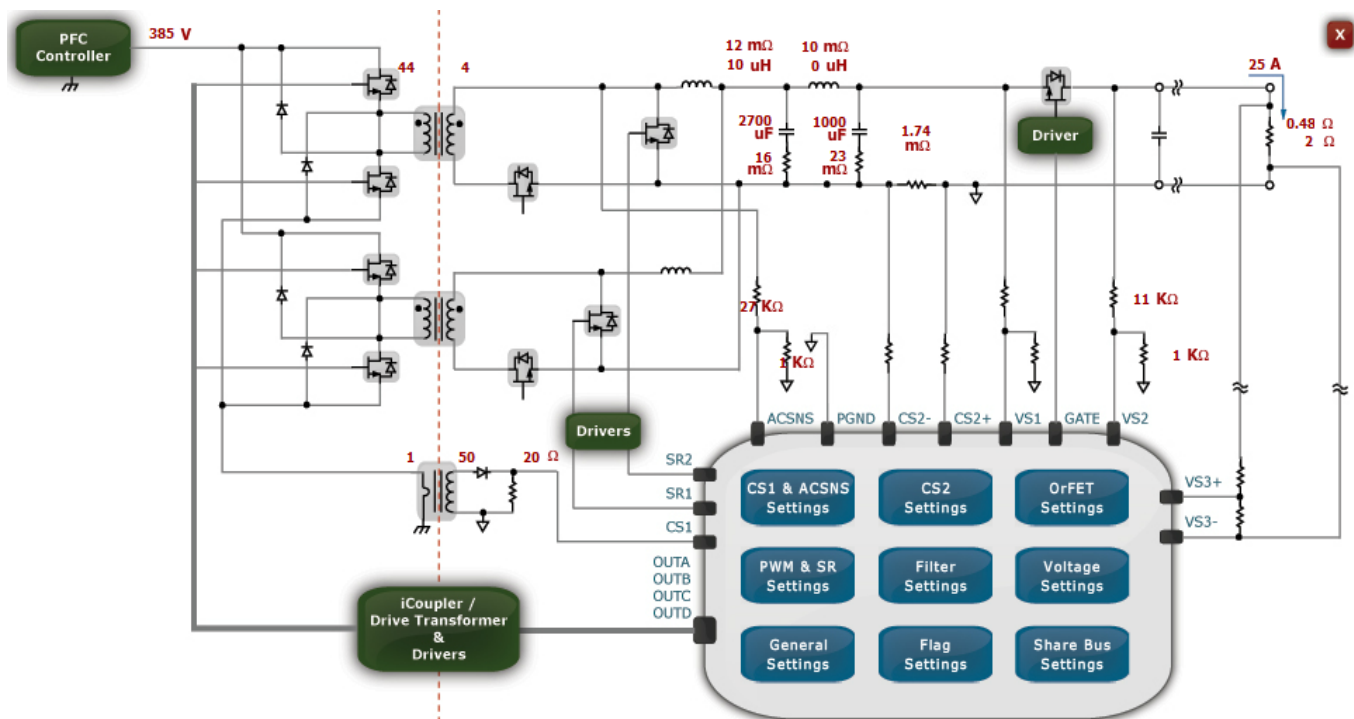

Figure 9. Main Setup Window of the **ADP1046A** GUI
Each **ADP1046A** chip has trim registers for the temperature, input current, output voltage, output current, and ACSNS. These can be configured during production and are not overwritten whenever a new register settings file is loaded. This is done to retain the trimming of all the ADCs for that corresponding environmental and circuit condition (for example, component tolerances and thermal drift). A guided wizard called the **Auto Trim** can be used to trim the previously mentioned quantities of the trim registers (for example, temperature, input current, output voltage) so that the measurement value matches the values displayed in the GUI, which allows ease of control through the software. Click **Voltage Settings** or **CS2 Settings** in the **Setup** window (see Figure 9) to access the **Auto Trim** wizard.
5. The software should report that the **ADP1046A** has been located on the board. Click **Finish** to proceed to the main software interface setup window (see Figure 9). The serial number shown next to the checkbox (see Figure 7) indicates the USB dongle serial number. The windows also displays the device I2C address.
The board settings can be accessed from the main setup window (see Figure 9).
4. The OrFET power-on is dependent on the voltage difference of VS1 and VS2. If the PSU is standalone, the OrFET gate turns on at the beginning of the soft start ramp when VS1 – VS2 is less than or equal to the programmed threshold in the GUI (see the **OrFET Settings** window in the GUI, which is accessed by clicking **OrFET Settings** in Figure 9). The output regulation is from VS3, and the normal filter is in operation.
When a flag is triggered, the ADP1046A state machine waits for a programmable length of debounce time before taking any action. The response to each flag can be programmed individually. Click **Setup** and then **Flag Settings** (see Figure 9) to configure the flags.